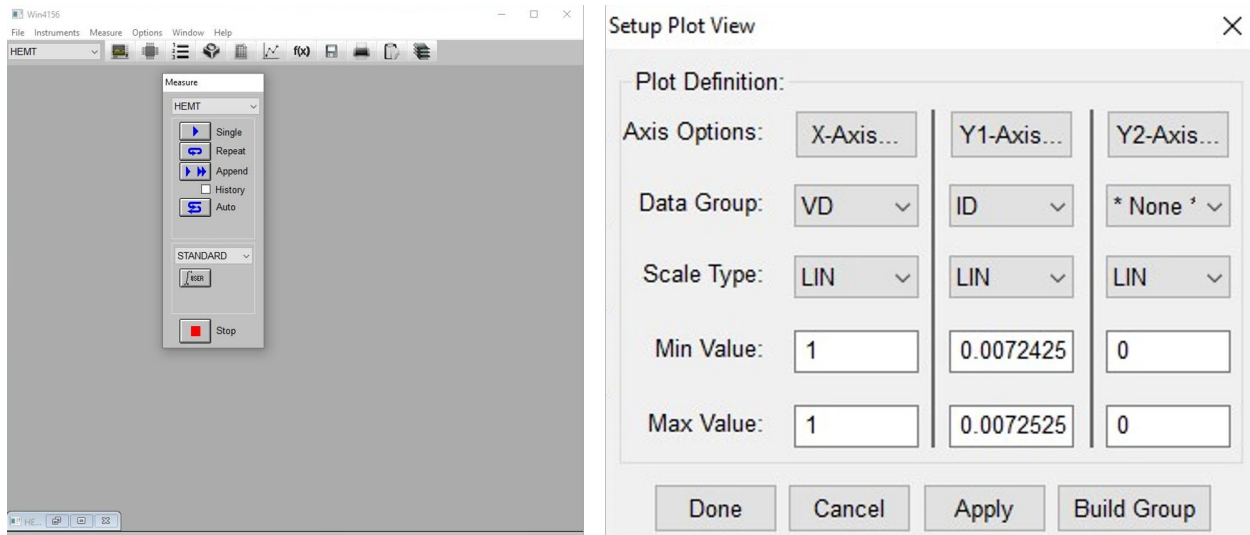

Fig. 6.6. (a) Measure window and (b) Setup plot view.
- 6.14 On the top menu of MTW4156 as shown in Fig. 6.2(a), ready the measurement by clicking on , choose the setup you named, and click on  to start a single measurement as shown in Fig. 6.6(a).
- 6.15 After the measurement-in-progress message appears on the bottom of the window and disappears to indicate that the measurement is finished, click on  on the top menu of MTW4156 to plot the data. On the popup window shown in Fig. 6.6(b), choose the appropriate axis and data range, click on "Apply" and "Done," a plot appears. If the plot does not appear to be satisfactory, change the measurement setup by repeating Steps 6.11–6.12 and remeasure as in Step 6.14. Repeating the measurement updates the data.